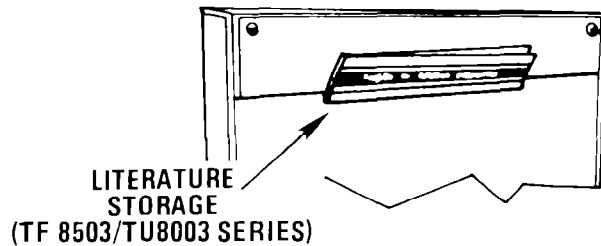

FIGURE 7
5. Remove any materials shipped in the drawer. Some models have a literature storage compartment located inside the front panel. See Figure 7. **DO NOT REMOVE THE BAG.**